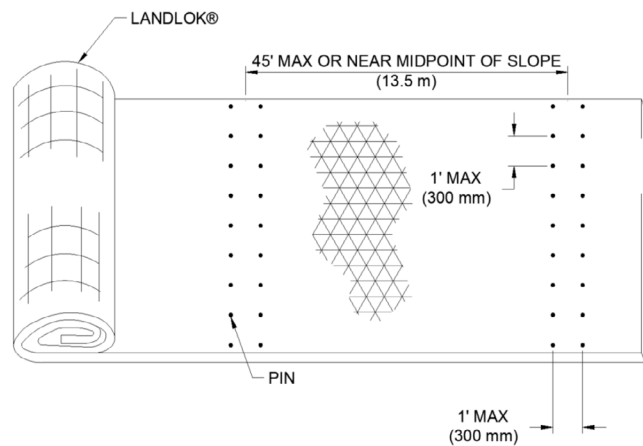

Figure 15: Simulated Check Slot
- For channel bank heights or channel bottom widths greater than 45 ft (13.7 m), install simulated check slots. This method includes placing two rows of pins 12 in (300 mm) apart on 12 in (300 mm) centers at 45 ft (13.7 m) maximum intervals or across the midpoint of the slope for slope lengths less than 60 ft (18.2 m) (Figure 15).